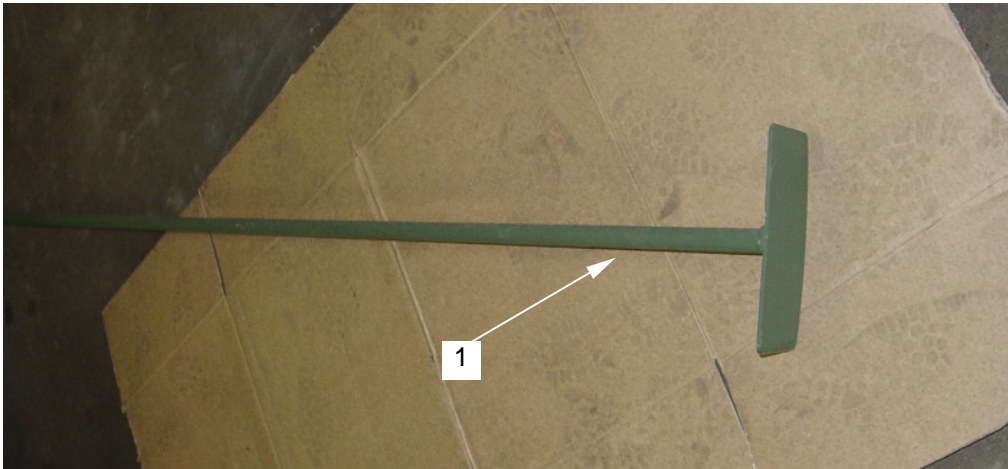

Figure 30. Sludge Rake
30. Clean equipment tray using sludge rake (**figure 30, item 1**) and freshwater. Dispose of waste in an approved treatment system or waste disposal site in accordance with host nation, local, or unit procedures designed to protect human health and the environment.